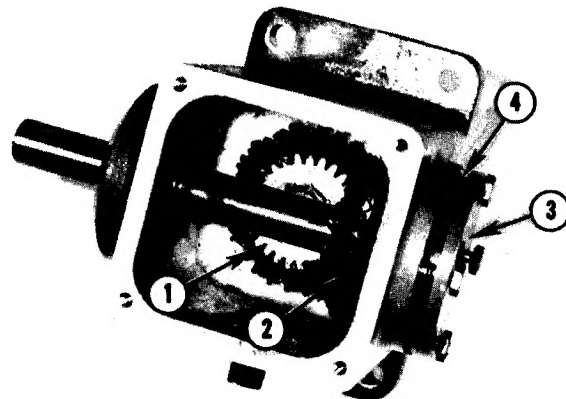

FIG. 10.17--ADJUSTING GEAR BACK-LASH
22. Install plate with shims then check gears backlash. Backlash in gear should be .002"-.005". Add or remove shims to obtain correct gear backlash. Fig. 10.17.